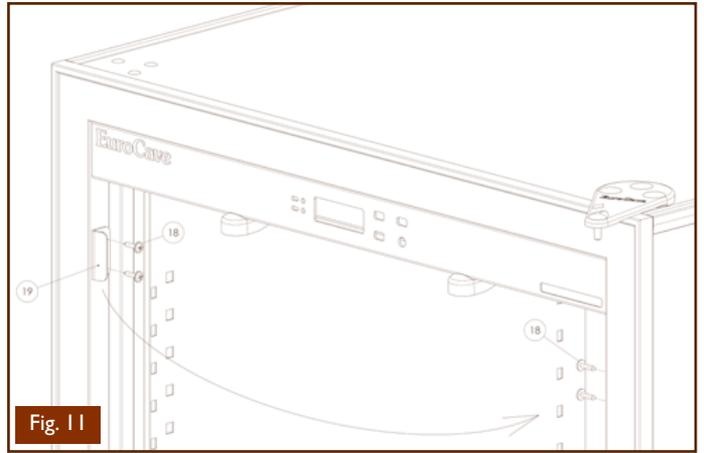

Fig. 11
- Loosen the four screws (18), see Fig. 11.
- Locate the foot (19) on the other side of the housing using the screws (18) see Fig.11